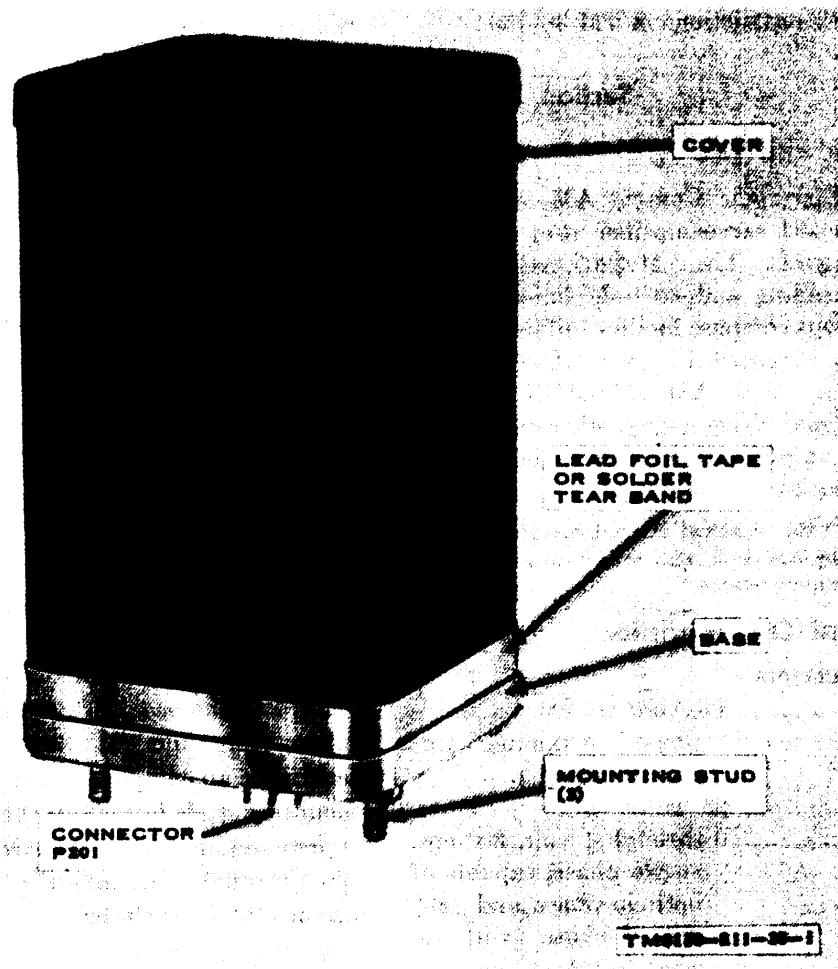

Figure 1-1. Amplifier, Electronic Control AM-3209/ASN.
This manual contains instructions for organizational, direct and general support, and depot maintenance for Amplifier, Electronic Control AM-3209/ASN (fig. 1-1). It includes instructions appropriate to direct and general support
*a.* The AM-3209/ASN (fig. 1-1) is a moisture-sealed, plug-in component. The internal components, transformers, fixed capacitors and resistors, germanium transistors, silicon diodes, and a thermistor are mounted on a circuit board (fig. 3-5 and 3-6) and protected by a snug-fitting cover (fig. 1-1). The cover (fig. 1-1) slides over the internal amplifier assembly circuit board and is secured to the base with either lead foil tape or a solder tear band seal. The AM-3209/ASN is secured to an equipment rack with three threaded mounting studs located on the base. All electrical inputs and outputs to the AM-3209/ASN are applied through a hermetically sealed electrical connector (P201) on the base.